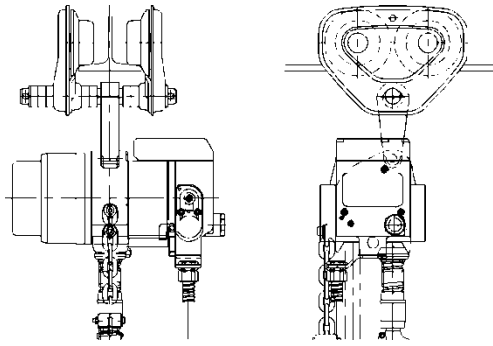
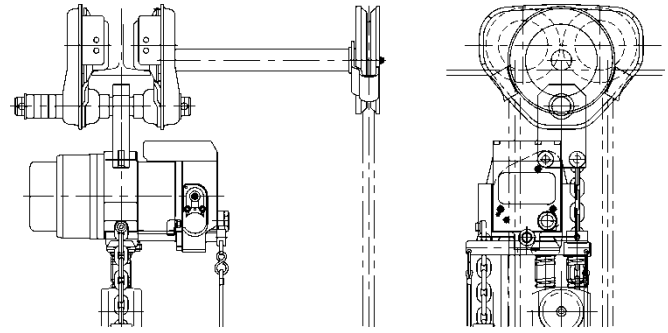
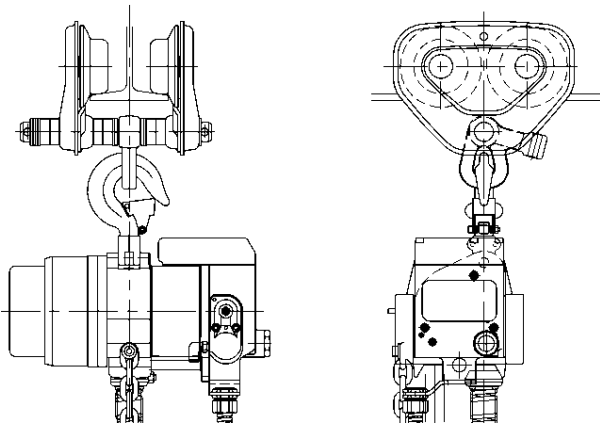

Figure 3-21 Lug mount on TF2
Figure 3-22 Lug mount on Geared TS2 Extended Hand Wheel
Figure 3-23 Hook mounted on Suspender C
- 3.3.4 Standard configuration for a TCR hoist is lug mounted to the trolley using a TCR Suspender. As shown in **Figure 3-21** or **Figure 3-22**. Optional configurations for 1/4 to 3Ton TCR hoist is, hook mount to suspender C as shown in **Figure 3-23**.